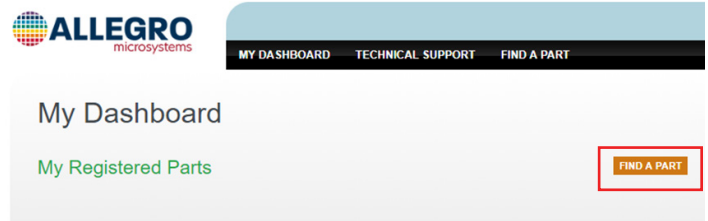

Figure 7: “Find a Part” button allowing the user to register specific devices
3. After registering and logging in to the software portal, the user will be greeted with the dashboard page. Choose the “Find a Part” button highlighted in Figure 7.